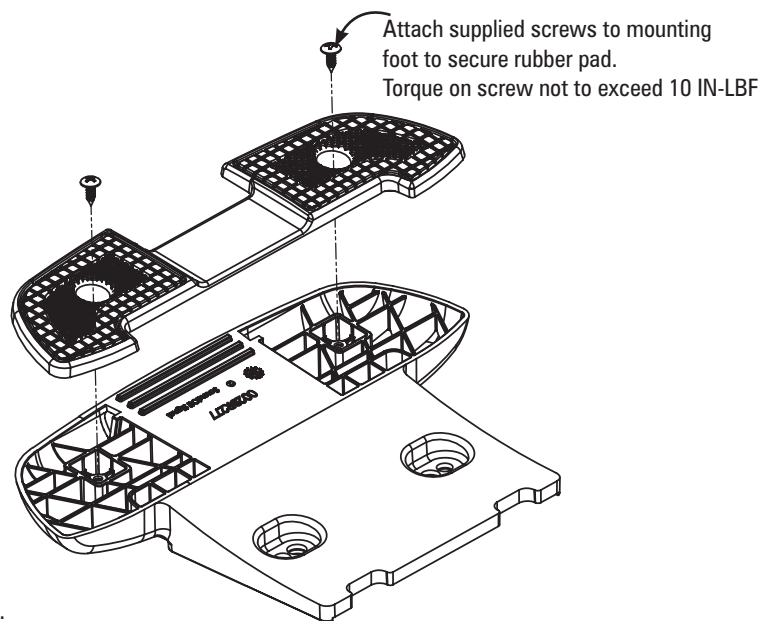

Figure 3.
1. Attach the supplied screws to the mounting foot to secure the rubber pad as shown in Figure 3. Be sure the torque does not exceed 10 IN-LBF.